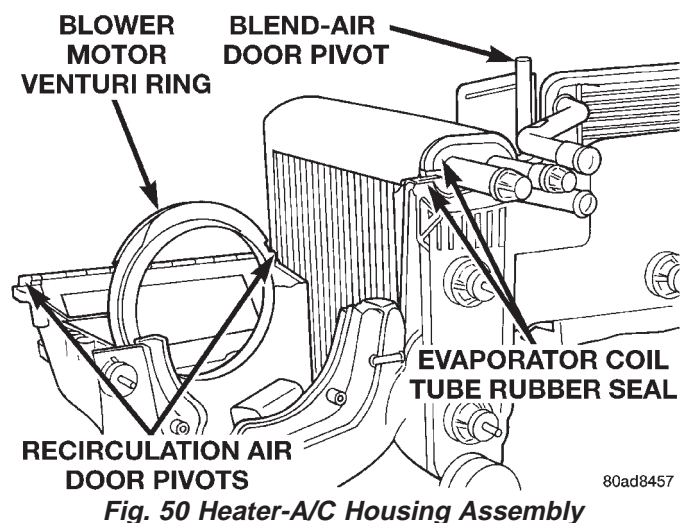

Fig. 50 Heater-A/C Housing Assembly
(1) Assemble the upper heater-A/C housing half to the lower half. During assembly, be certain of the following:
- (a) That each of the mode door pivot shaft ends is properly engaged in its pivot hole (Fig. 50).